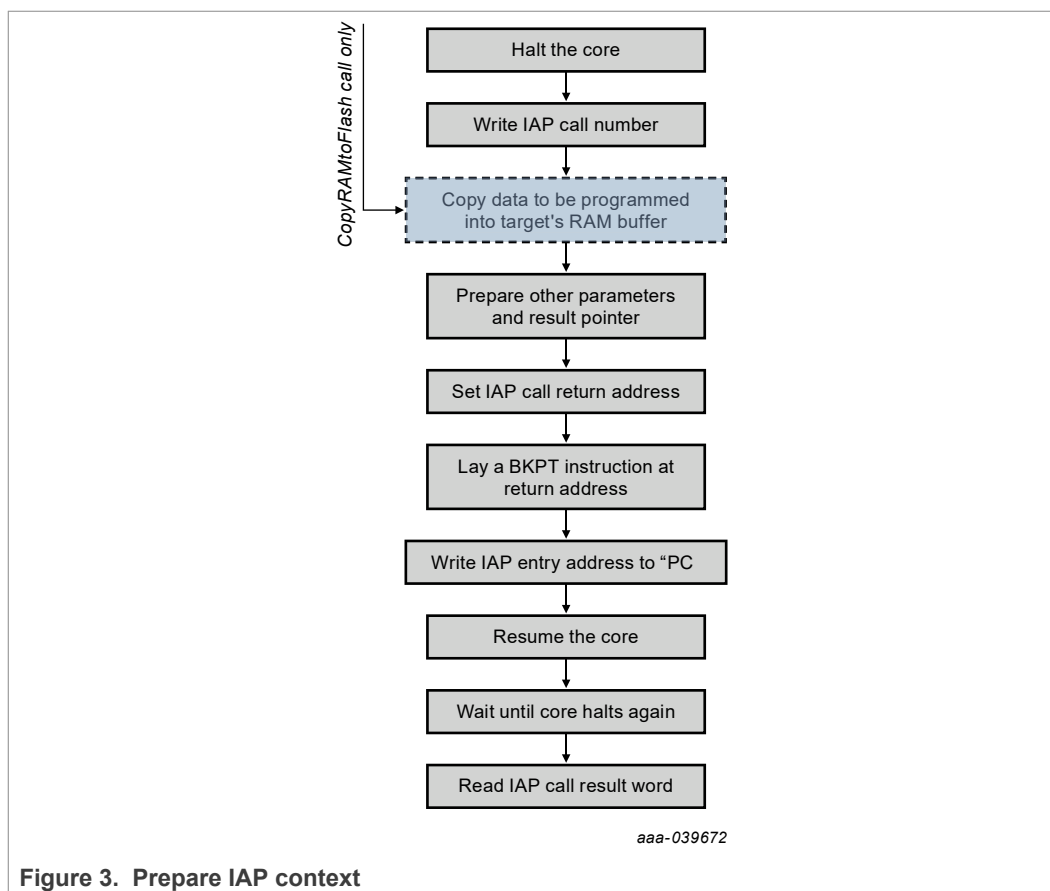

Figure 3. Prepare IAP context
Figure 3 illustrates the "Copy (S)RAM to Flash" IAP call. However, all IAP calls share the framework.